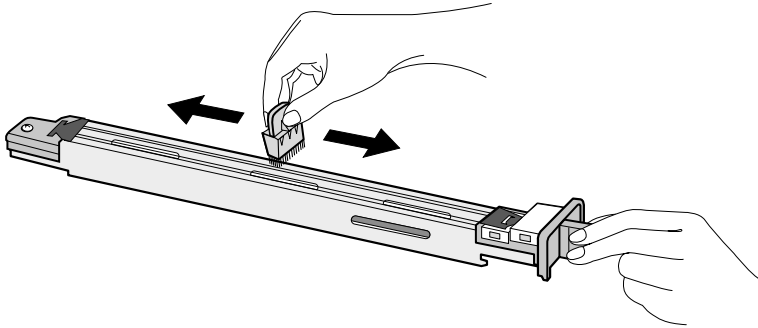

Fig. 6.15 Clean the Pre-Charger Unit
3. Insert the wire cleaner into the recess on the pre-charger unit, and slide the cleaner back and forth as shown in figure 6.15.